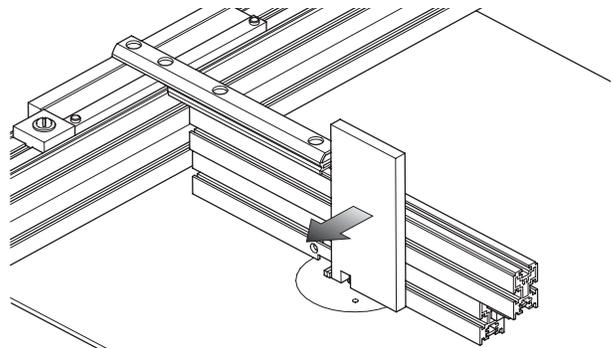

Figure 21: First finger joint cut.
5. Square cut the ends of two test pieces, equal in width, 3" to 4" (75mm to 100mm) wide, 4" to 6" (100mm to 150mm) long, of thickness the same as the lumber you will be finger jointing. Stand one test piece upright against the sled, with the edge against the fixed key, as shown in **Figure 21**. Push this test piece through the rotating bit. Shut off the router.